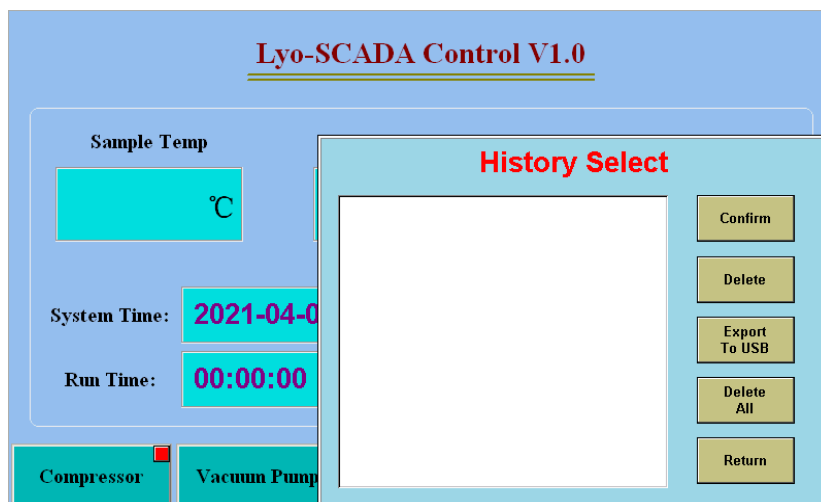

Fig.4 History Data Screen
4. Press the **History Data** button on the main screen, you can check the history batch data information. As shown in Fig4.